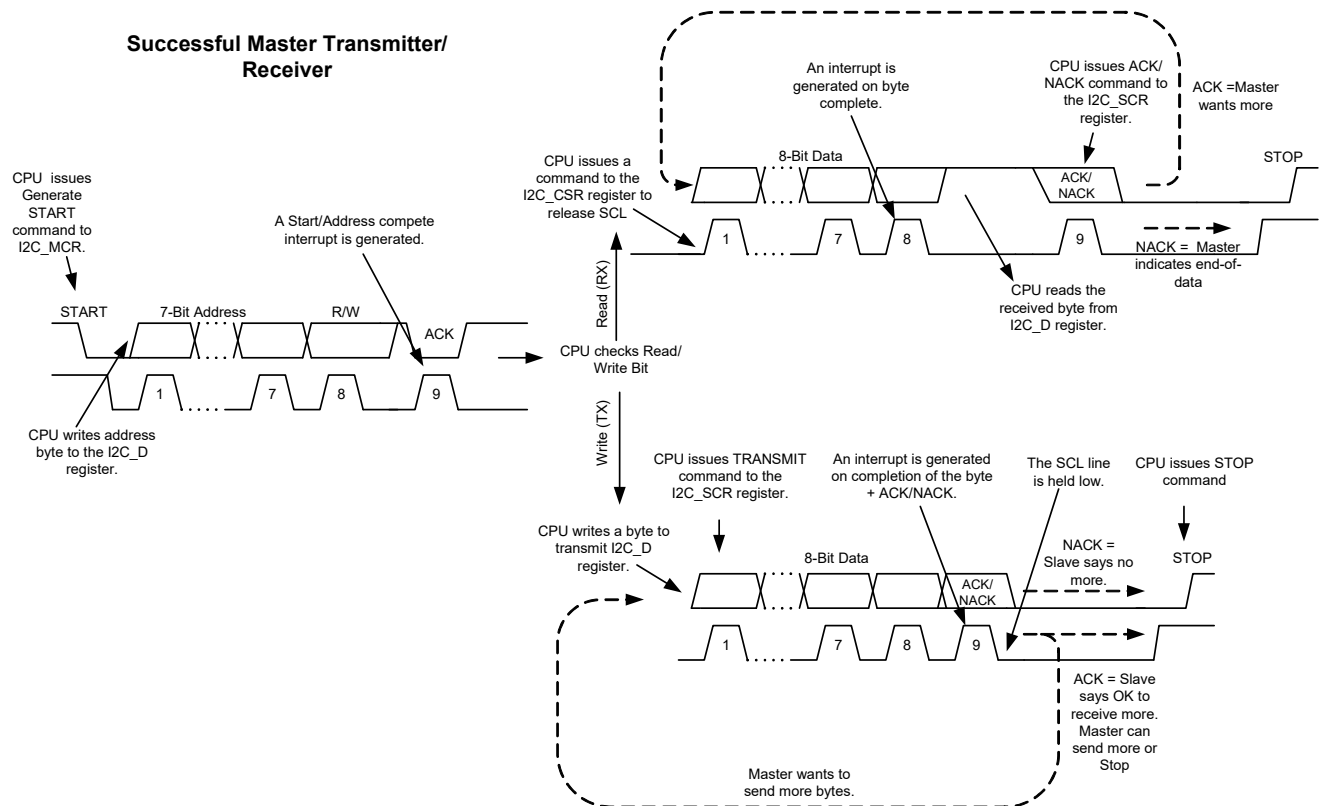

Figure 28-3. Master Operation
Figure 28-3 is a graphical representation of a typical data transfer from the master perspective.
**Bit 0: Enable Slave.** When the slave is enabled, the block generates an interrupt on any Start condition and an address byte that it receives, indicating the beginning of an I2C transfer. When operating as a slave, the block is clocked from an external master. Therefore, the block will work at any frequency up to the maximum defined by the currently selected clock rate. The internal clock is only used in Slave mode, to ensure that there is adequate setup time from data output to the next clock on the release of a slave stall. When the Enable Slave and Enable Master bits are both '0', the block is held in reset and all status is cleared. See Figure 28-3 for a description of the interaction between the Master/Slave Enable bits. Block enable will be synchronized to the SYSCLK clock input (see “Timing Diagrams” on page 474).